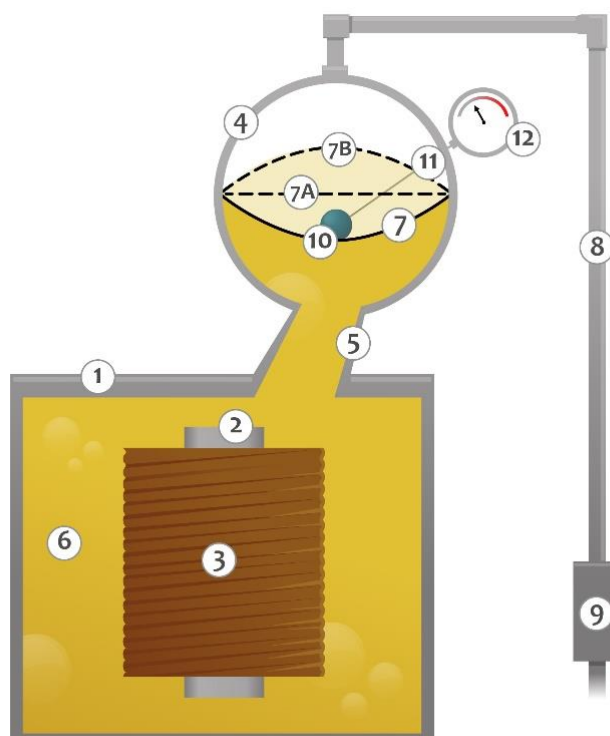

Figure 1 - Membrane sealing system
This sealing system is illustrated in Figure 1, which shows a transformer or reactor composed of a main tank (1), inside of which are housed the magnetic core (2) and the windings (3). The main tank (1) is connected to the expansion tank (4) through the interconnection piping (5), and the whole assembly is filled with insulating oil (6). The rubber membrane (7) is installed inside the expansion tank (4), moving (7A and 7B) according to the oil level (6). The upper part of the rubber membrane (7) is in contact with atmospheric air through the air tubing (8) and the air dehumidifying device (9). On the upper part of the rubber membrane (7) rests a wheel or roller (10) which is coupled via a rod (11) to an oil level indicator (12).